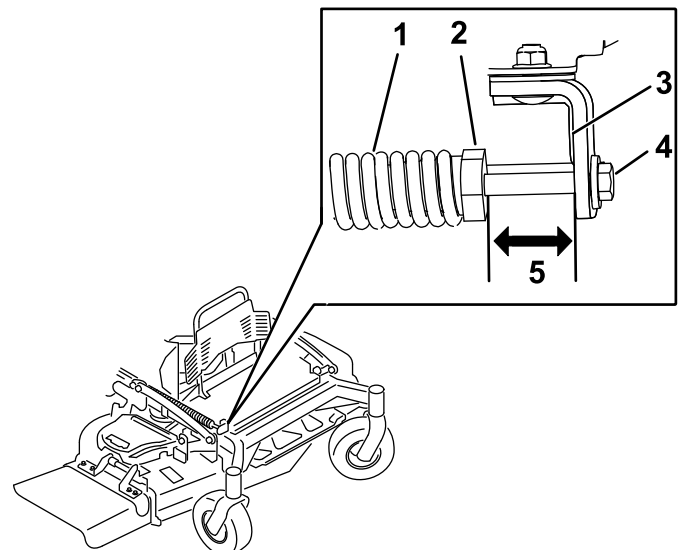

Figure 86
- Check the distance between the spring nut and the rear side of the welded mount bracket (Figure 86).
- Ensure that the length is between 47 to 50 mm (1.8 to 2 inches) as shown in Figure 86.
- If needed, adjust the distance by adjusting the bolt on the front of the mount bracket (Figure 86).